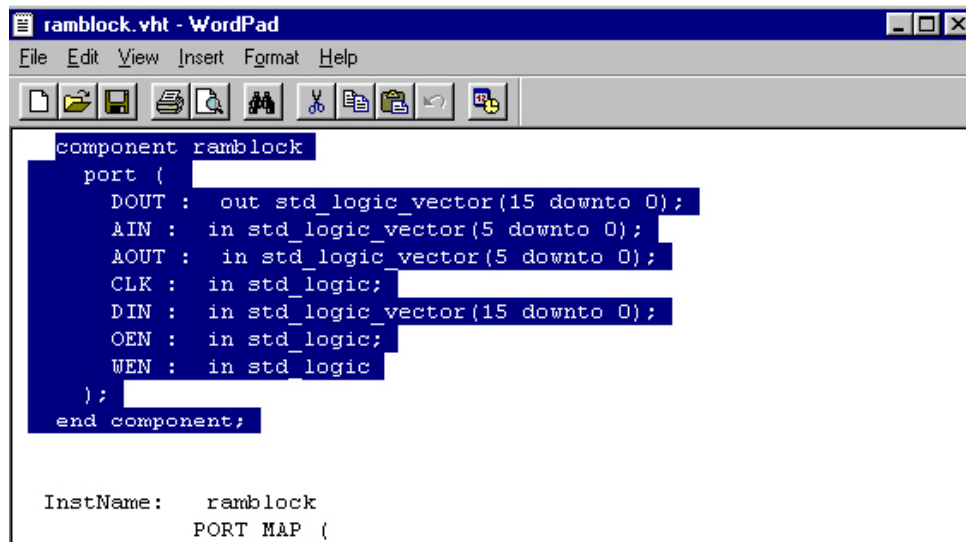

Figure 35 Component
1. Edit the template to match the Ramdesign.vhd file on the next page. You can copy the **component** definition from the file **ramblock.vht** under **c:/training/lab4/user94k/ramblock**, see **Figure 35**.